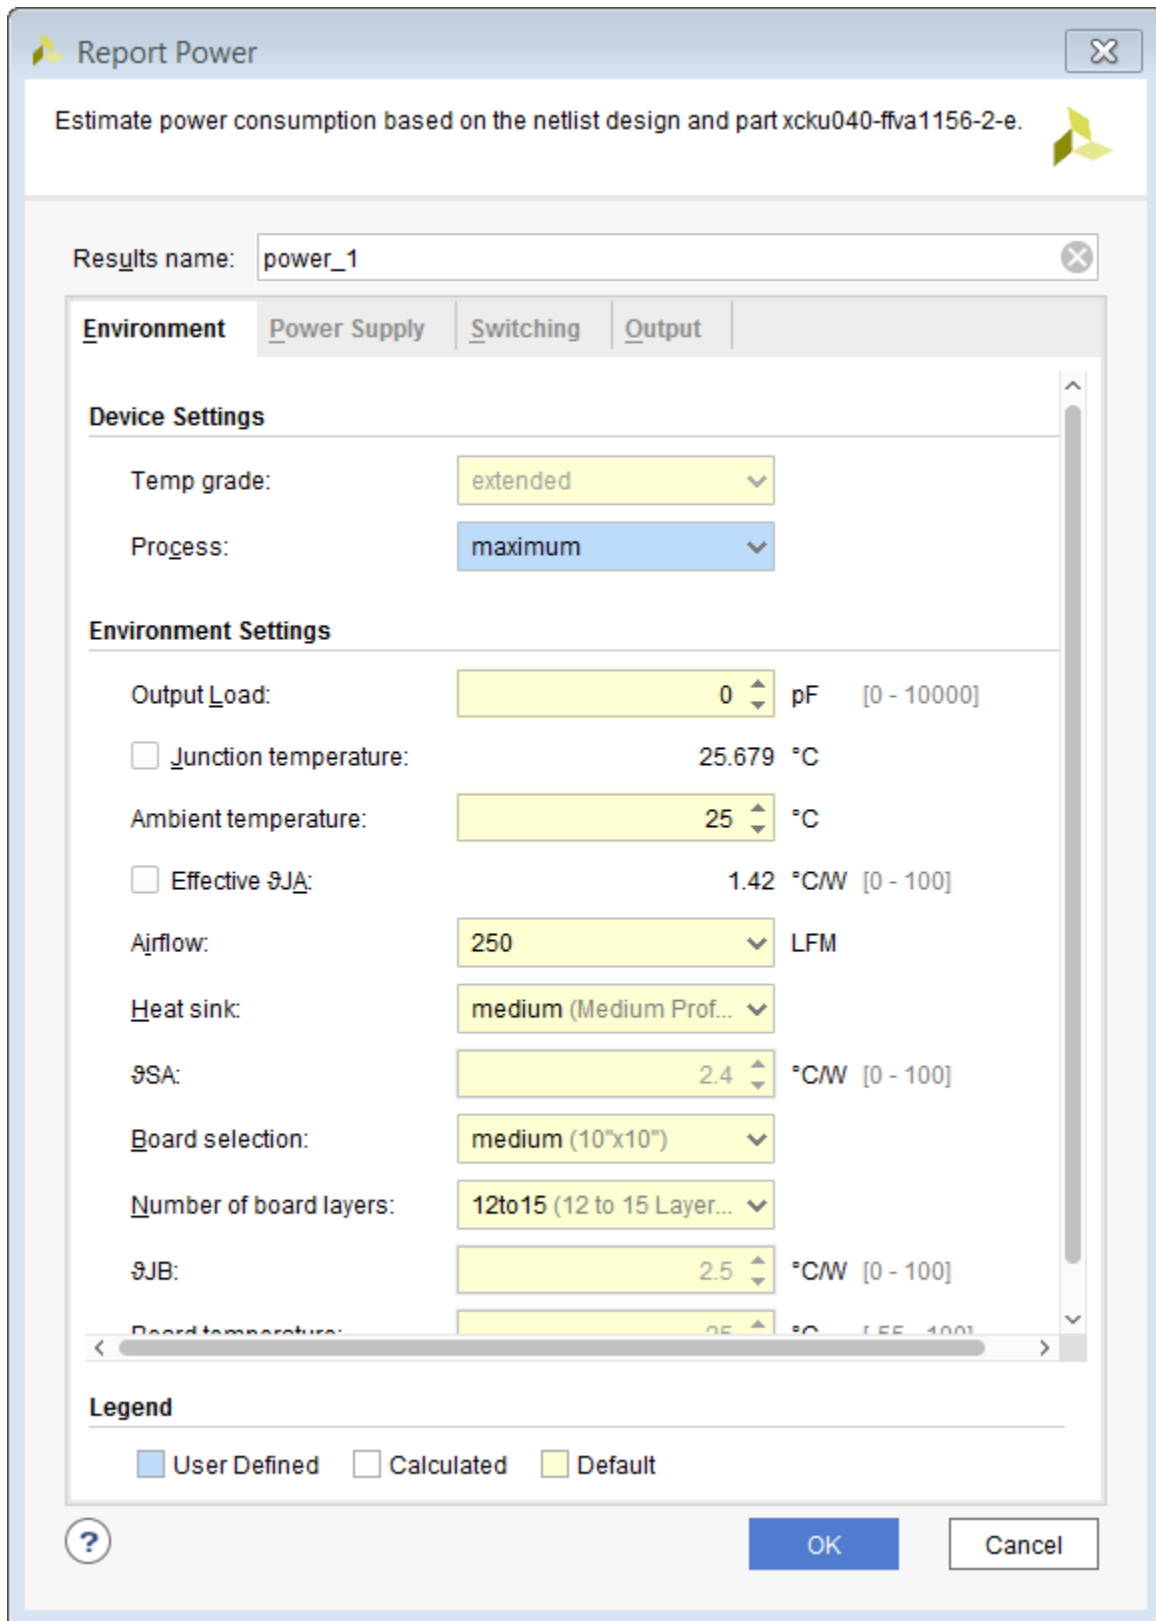

Figure 8: Report Power Dialog Box (Environment Tab)
2. Examine the **Environment** tab in the Report Power dialog box (Figure 8)